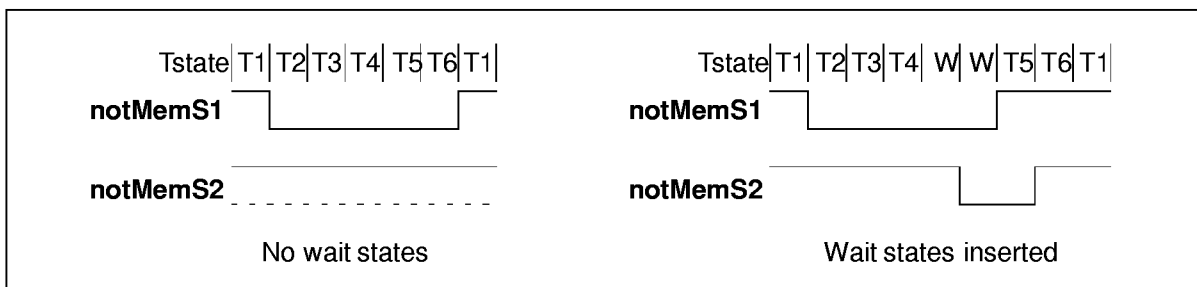

Figure 6.6 IMS T805E effect of wait states on strobes
**notMemS2**, **notMemS3** and **notMemS4** are identical in operation. They all terminate at the end of **T5**, but the start of each can be delayed from one to 31 periods **Tm** beyond the start of **T2**. If the duration of one of these strobes would take it past the end of **T5** it will stay high. This can be used to cause a strobe to become active only when wait states are inserted. If one of these strobes is configured to zero it will never go low. Figure 6.6 shows the effect of **Wait** on strobes in more detail; each division on the scale is one period **Tm**.